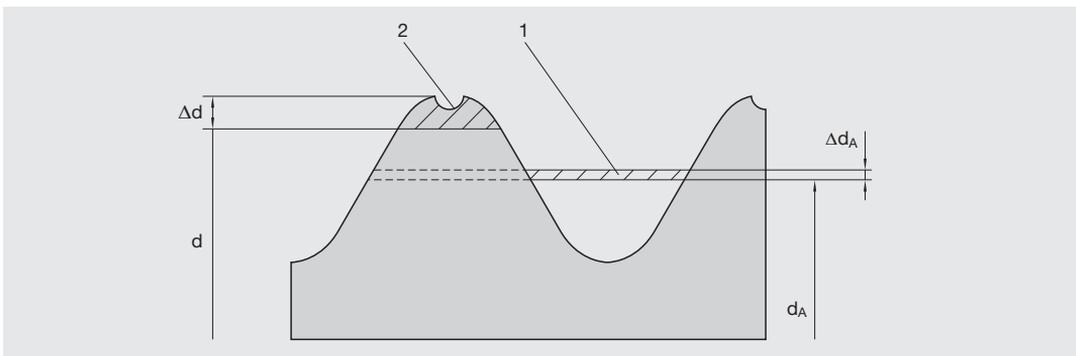

Figure 17: Change of the blank diameter
When adjusting the blank diameter, bear in mind that in Figure 17, areas 1 and 2 are identical in size. This means that an increase in blank diameter d_A by Δd_A results in an increase in the external diameter by 3 to 5 times the value of Δd_A .
- d_3 : Core diameter [mm] (Figure 17)